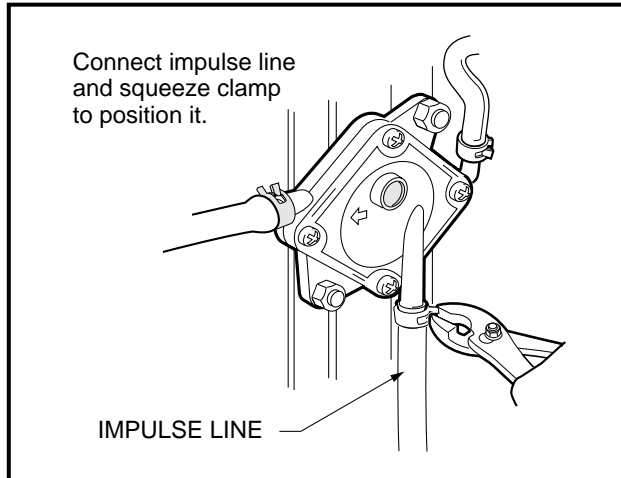

Figure 16-101 Impulse Line
26. Connect the impulse line to the fuel pump and secure it with the hose clamp (**Figure 16-101, Page 16-39**).